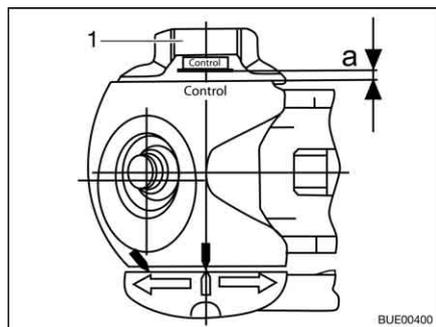

Fig. 207 Friction control
- Turn the handwheel (Fig. 207,1), until it can be heard and felt that the torque limiting mechanism grates. Direction of rotation: In a clockwise direction.
- Distance  $a > 0$  (Fig. 207): Wear within the permissible range.